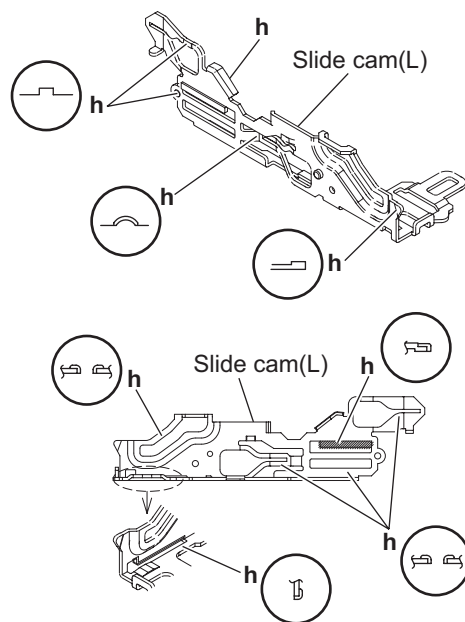

Fig.13
When attaching the slide cam (L), apply grease to the section **h**. (See Fig.13.)